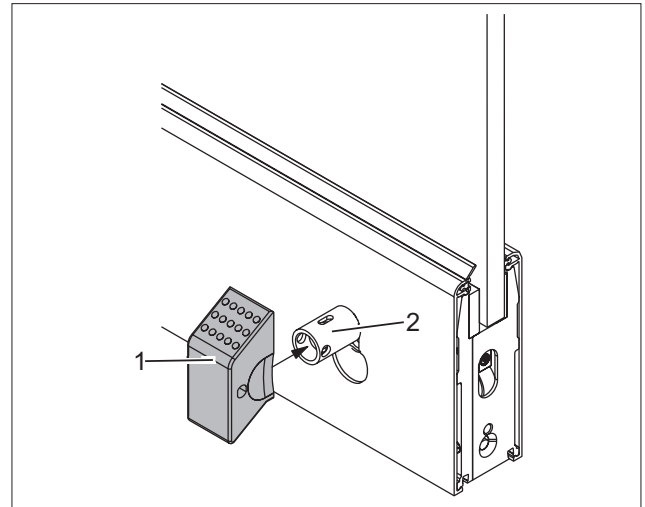

Fig. 35 Sliding on the face-mounted slide bolt
6. Slide the face-mounted slide bolt (Fig. 35/1) on the sleeve (Fig. 35/2). Align the mounting holes in the sleeve and the face-mounted slide bolt.